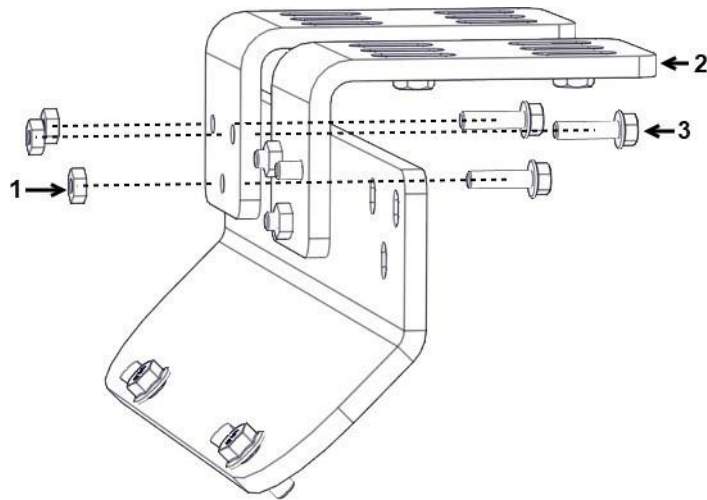

Figure 40. Upper Lock off Bracket Assembly
7. Place the upper lock off bracket on the lower lock off bracket. (Refer to Figure 40.)
9. Insert and torque down the nut behind the upper lock off bracket. (Refer to Figure 40.)